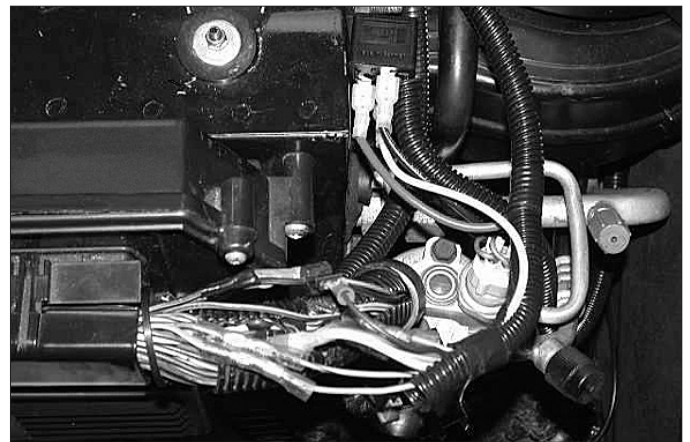

Fig. 11-b
- K. Connect the TAN/YELLOW wire to the wire leading to the PCM cam sensor input. (See Fig. 11-b.)